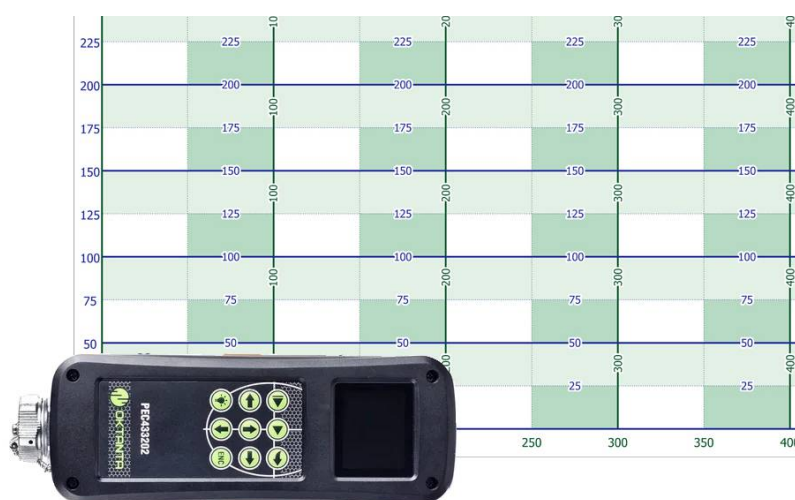

Figure 55. Sensor located in point with coordinate (100.0).
- You shall move the sensor to the next grid node, for example, point (100.0) and press on the  key of the sensor keyboard. The example of sensor location at the second step of scanning is shown in Figure 55.